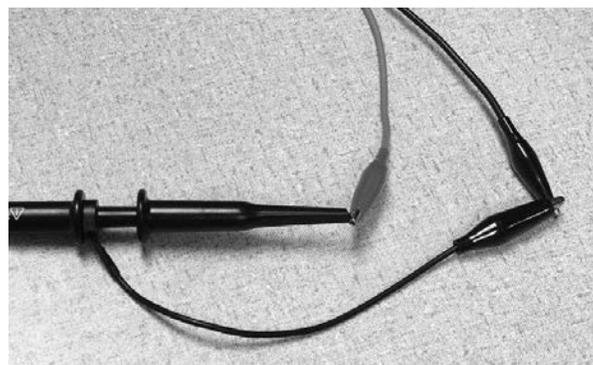

Figure 1-7 Oscilloscope probe connection to BNC-to-Alligator cable
3. Attach the BNC end to the function generator output, and connect the other end to the channel one oscilloscope probe as shown in Figure 1-7. Be certain to attach the probe tip to the red alligator clip.